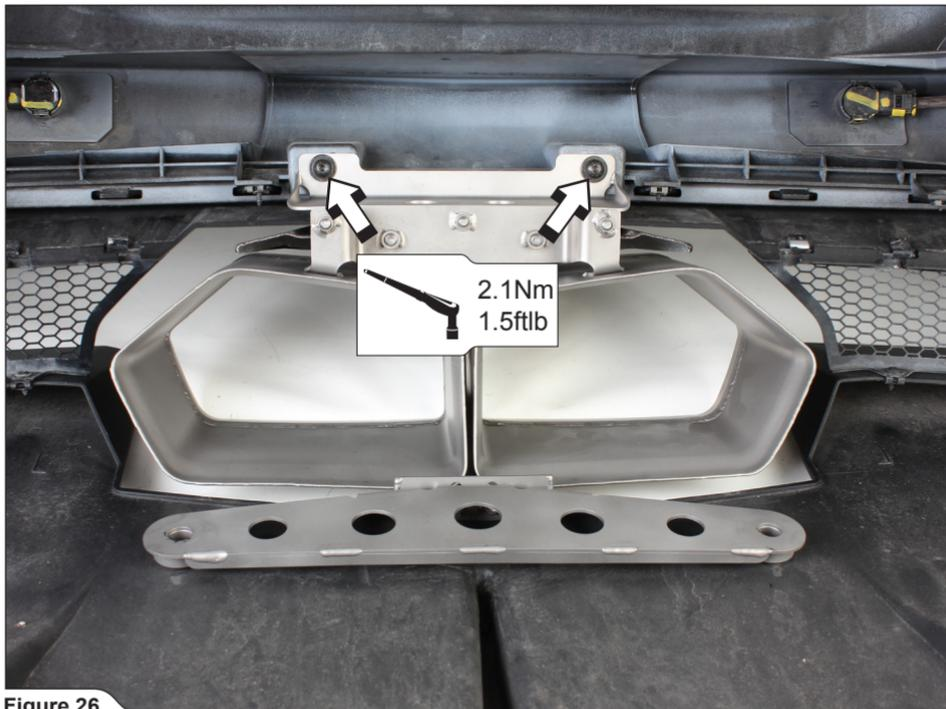

Figure 26
1. Insert and tighten the Akrapovič tail pipe onto the rear bumper, using stock bolts (Figure 26).